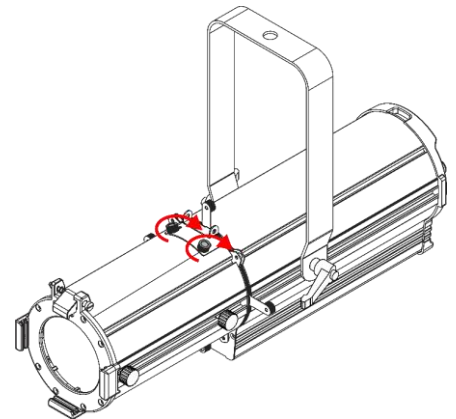

Fig. 21
- 07) Tighten the two **cover plate thumbscrews (10)** to secure the **gobo slot cover plate (11)** at its place (see Fig. 21).